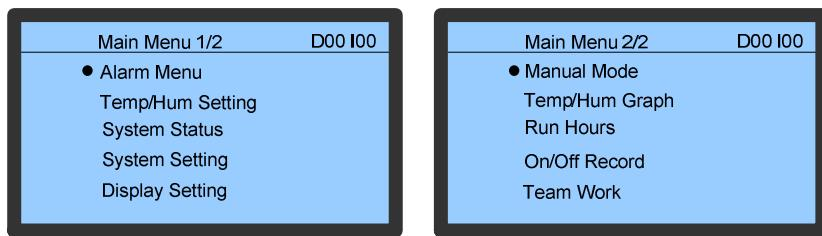

Figure 1-5 Main Menu interface
1. The Main Menu includes 10 sub-menus and is displayed on two screens, as shown in Figure 1-5.